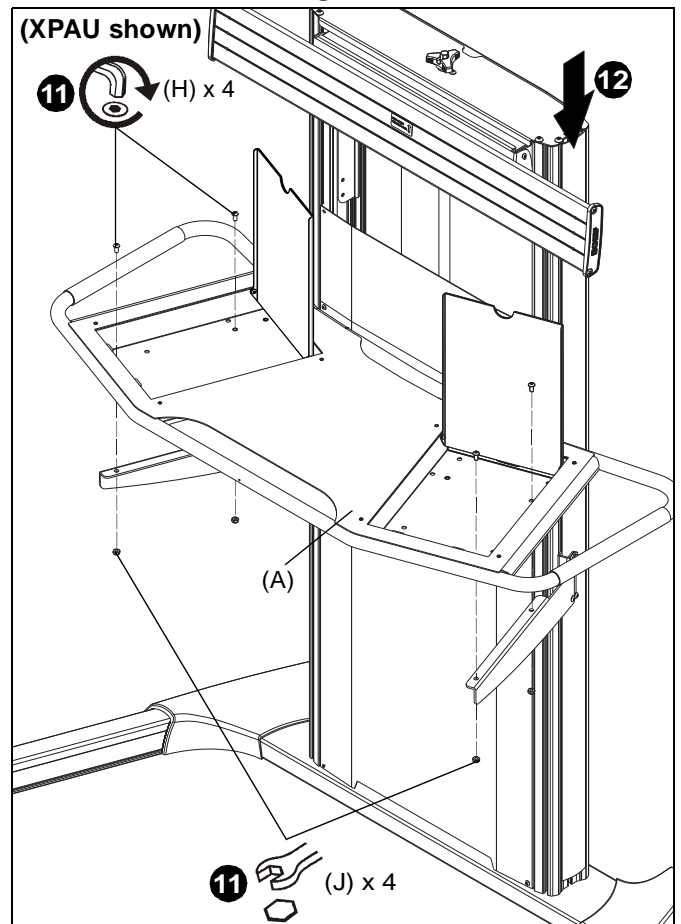

Figure 8
11. Open storage tray lids and use four 1/4-20 x 1/2" button head cap screws (H) and four 1/4-20" lock nuts (J) to secure large storage shelf (A) to shelf supports (B and C). (See Figure 8) and (See Figure 8)
12. Reinstall side covers into each side of cart/stand. (See Figure 8)